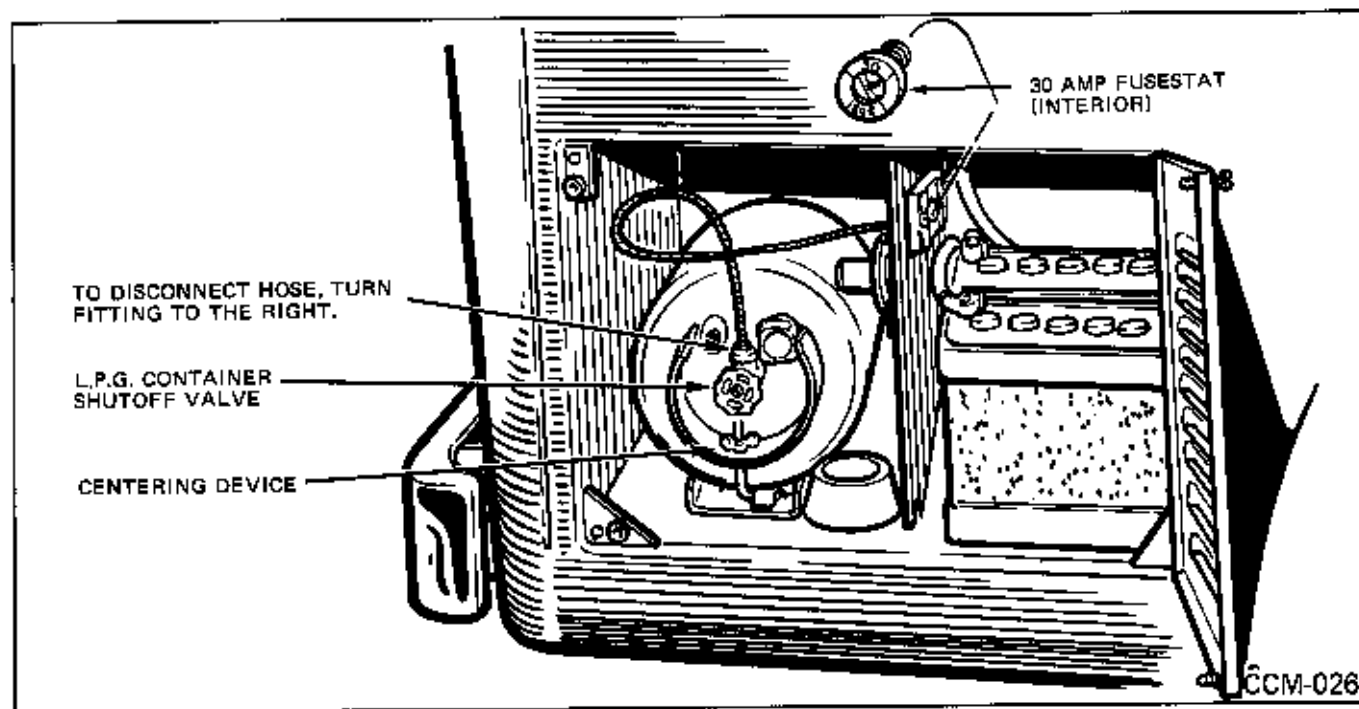

Fig. 24
The L.P. Gas Container is located in a compartment on the right rear side of the vehicle. To open the compartment door, turn screws to the left. Screws are part of the door. (Fig. 24)
1. Turn on the main gas supply. (Fig. 24)